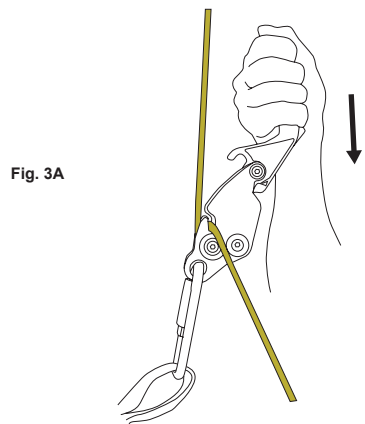

Fig. 3A
6. Start the descent using the **SMARTLINE X** fig. 3A.